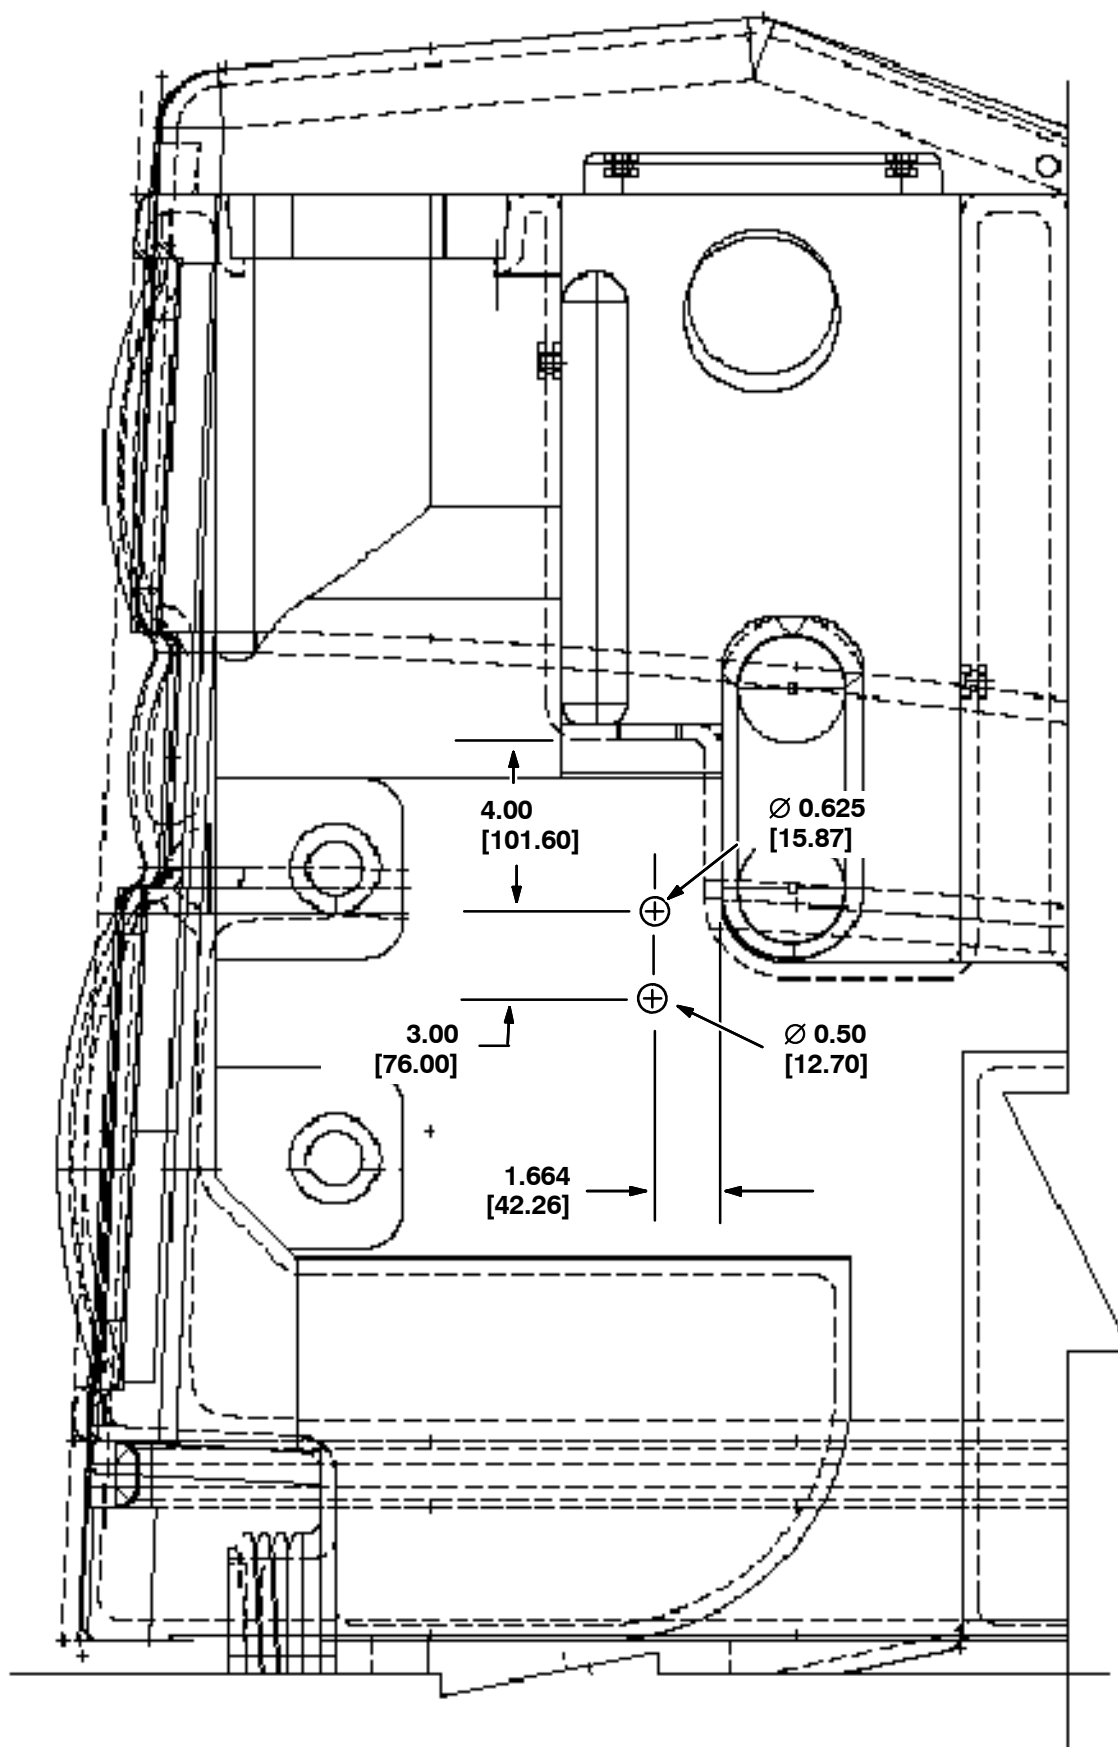

FIG. 6-Tank Rework
Measure and mark the location for the new liquid level sensor (1). Refer to Fig. 6.
Drill a 5/8" (0.625") hole into the point marked in the previous step. Clean the rough edges from the hole. Refer to Fig. 6.